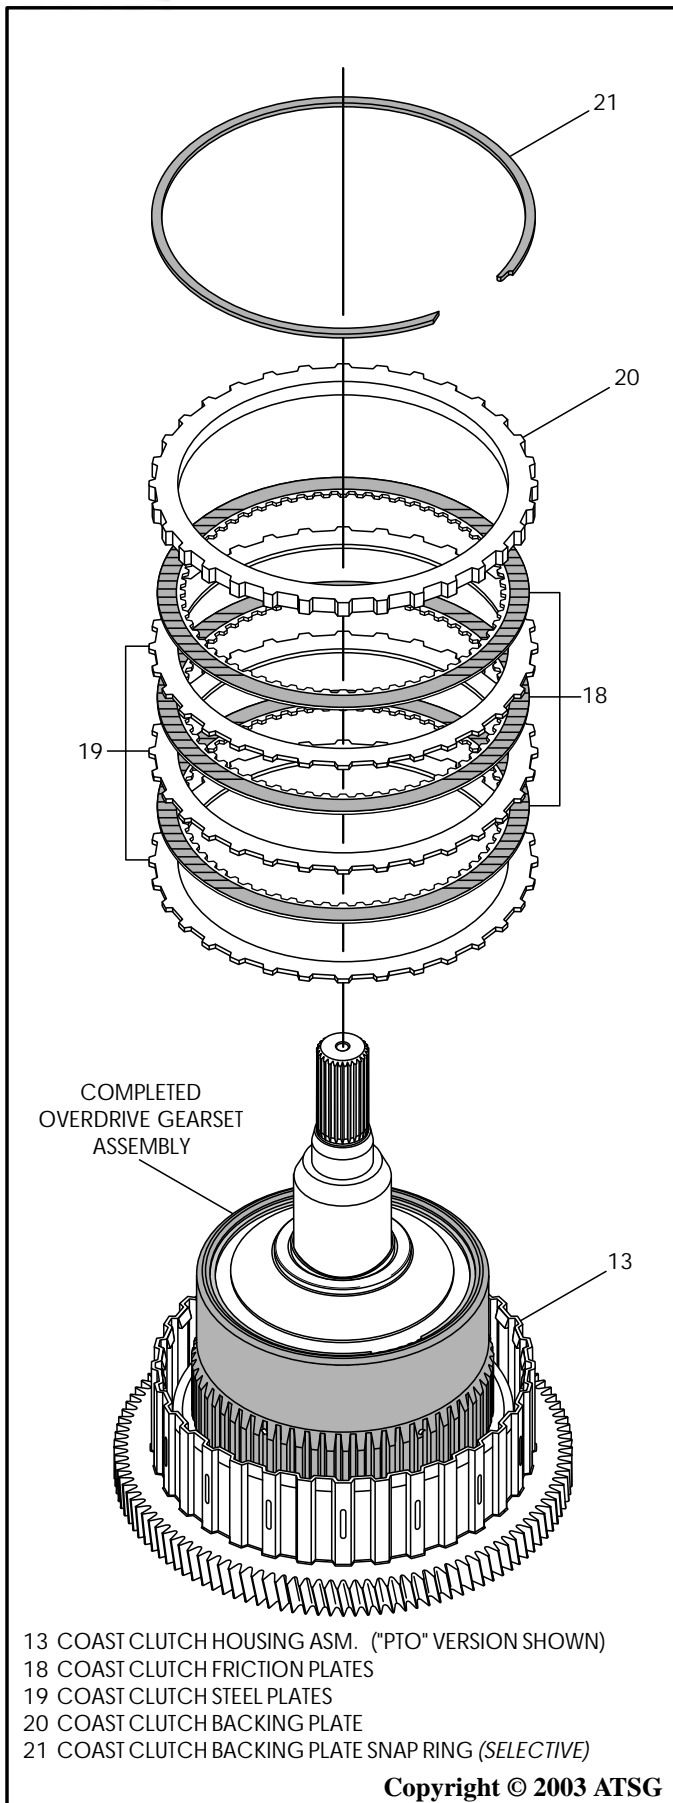

Figure 157
19. Re-install the coast clutch plates, as shown in Figure 157.